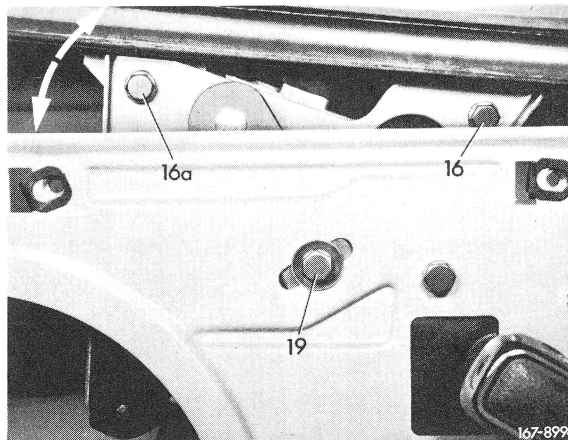

Fig. 6
**17** Adjust stop for upper stroke limit with screw (19) (Fig. 6).
**18** Adjust lateral contact pressure of side window on oblong hole by means of screw (20).